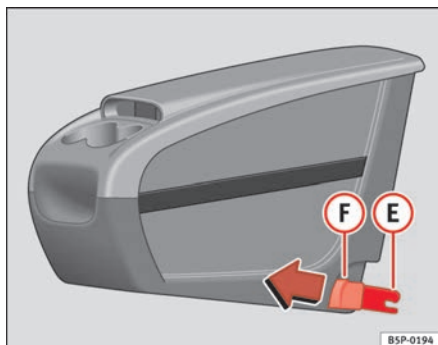
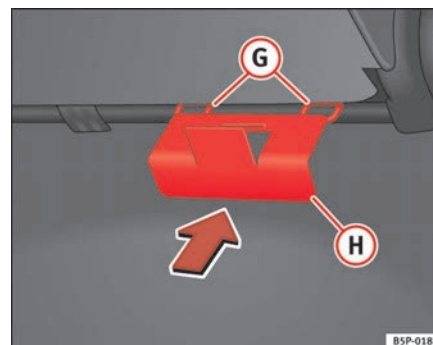

Fig. 111 Mobile stowage compartment Installation
Fig. 112 Mobile stowage compartment mounting plate
- Fit the mobile stowage compartment mounting plate ⑧ ⇒ fig. 112 from the inside of the vehicle, through the rear section of the seat. It should be fitted between the back rest and the seat, in the central seat area.
- Set both mounting pieces together (E) ⇒ page 143, fig. 111, with both mounting rings (G) ⇒ page 143, fig. 112 and press hard until both the clips completely connect with the rings.
- Pull each of the buttons ⇒ page 143, fig. 111 (F) on the clips (red buttons) forwards, until they snap out of place.